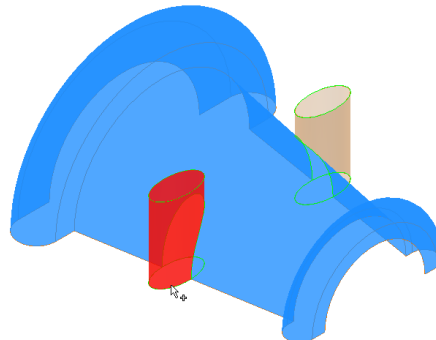

Figure 18-57 Trimming one of the extruded surfaces
- Using the base surface as the cutting tool, trim the remaining portion of the extruded surface on the left of the base surface, as shown in Figure 18-57.